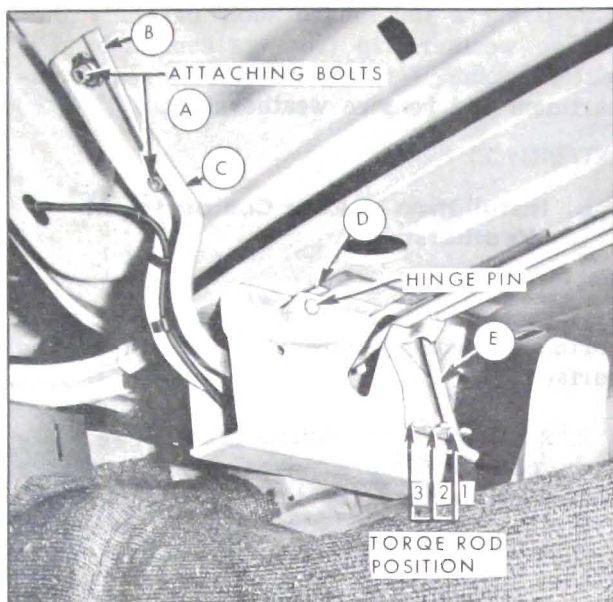

Figure 4-13—Rear Compartment Hinge & Torque Rod
4. With aid of helper remove lid attaching bolts "A" (Figure 4-13) and remove rear compartment lid.
a. To raise front edge of lid at hinge area, place shim between lid inner panel and forward portion of one or both hinge straps at "C" (Figure 4-13).
b. To lower front edge of lid at hinge area, place shim between lid inner panel and rearward portion of one or both hinge straps at "B" (Figure 4-13).
4. With a suitable tool disengage torque rod from notched retainer on inboard face of opposite hinge box "E" (Figure 4-13).
6. Bend up hinge pin retaining tab on inboard face of hinge box "D" (Figure 4-13); remove hinge pin and then remove hinge from box.
on the inboard face of the hinge boxes. If the torque rod is located in the lowest or rearward notch (position #1), the amount of effort required to open the lid is the greatest and the amount of effort required to close the lid is the least. If the torque rod is located in the top or most forward notch (position #3), the amount of effort to open the lid is the least and the amount of effort to close the lid is the greatest. See "E" (Figure 4-13).